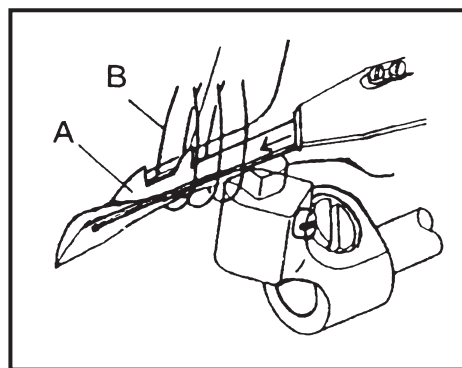

Fig.46-1
When the Moving Knife (A) move to the left which must be passed the loop (B) of needle thread. (Fig.46-1)